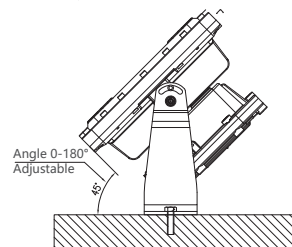

Fig. 2
8. The fixture can be adjusted up and down by 45° on wall/floor position only. (Figure 2)